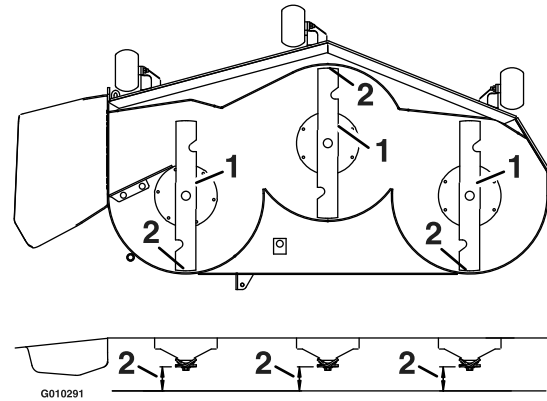

Figure 26
8. Carefully rotate the blades so they are facing front to rear (Figure 26).
9. Measure from the tip of the front blade to the flat surface and the tip of the rear blade to the flat surface (Figure 26). If the front blade tip is not “R” (see Block Height and Rake Table in **Deck Leveling**) lower than the rear blade tip, adjust the front deck hanger.